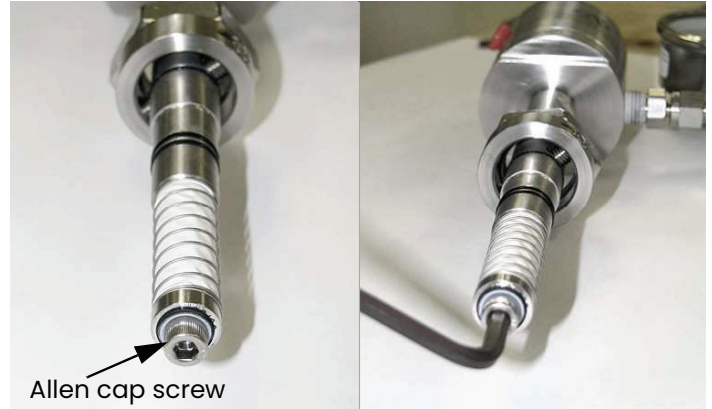

Figure 16: Checking/tightening the Allen cap screw
- Confirm that the Allen cap screw head's hex cavity is clean and free from foreign material. Confirm that the Allen cap screw that holds the membrane ferrule is torque-wrench tight (see *Figure 16* below). The torque value should be 10 inch-lbs. If the Allen cap screw is only hand-tight, the screw may protrude excessively, which could result in foot valve actuation when the probe is installed into the housing.